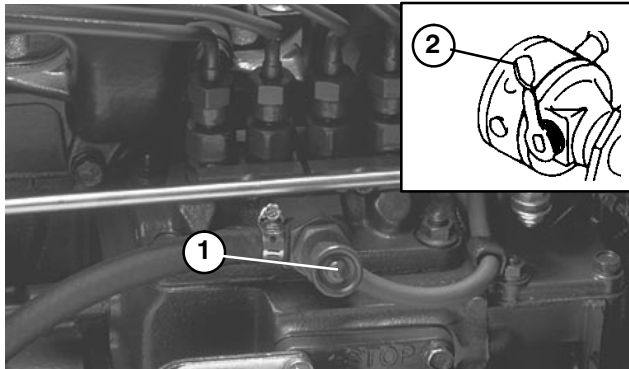

Figure 14
5. It may be necessary to bleed the air out of the fuel line between the fuel filter / water separator and the injection pump. To do this, loosen the knob on the injection pump (Fig. 14) and pump primer lever, located below injection pump.